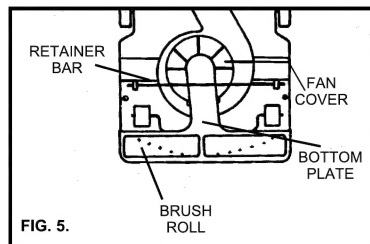

FIG. 5.
1. Release handle by stepping on foot pedal, lower handle tube and turn upright over (Fig. 5).